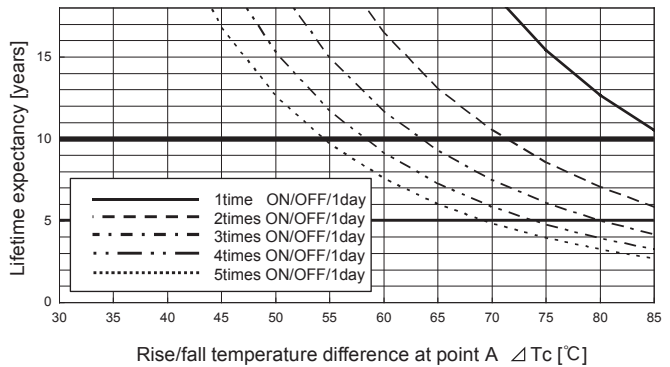

Fig. 12.3 Lifetime expectancy against rise/fall temperature difference
- Product lifetime expectancy depends on case temperature difference (ΔT_c) and number of cycling in a day is shown in Fig. 12.3 (It is calculated based on our accelerated process test result.)
- The warranty period is basically 10 years, however it depends on the lifetime expectancy which is shown in Fig. 12.3 if it is less than 10 years.